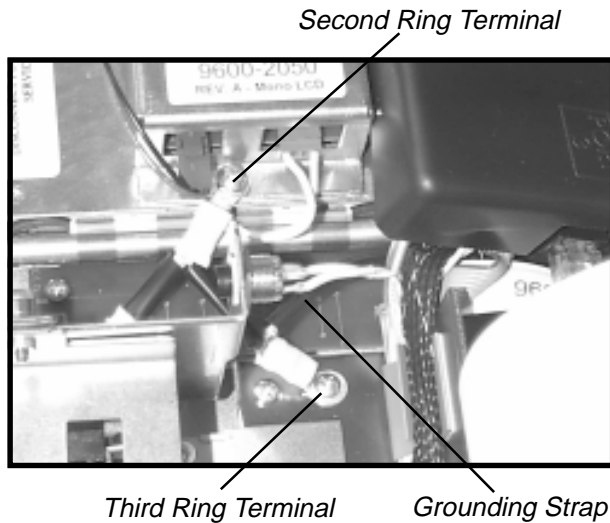

Figure 4. Second and Third Ring Terminals Connected to Inverter and Paper-Roll Brackets, Respectively.
4. Attach the SECOND Ring Terminal to the Inverter Bracket, as shown in Figure 4.
5. Attach the THIRD Ring Terminal to the Paper-Roll Bracket, as shown in Figure 4.